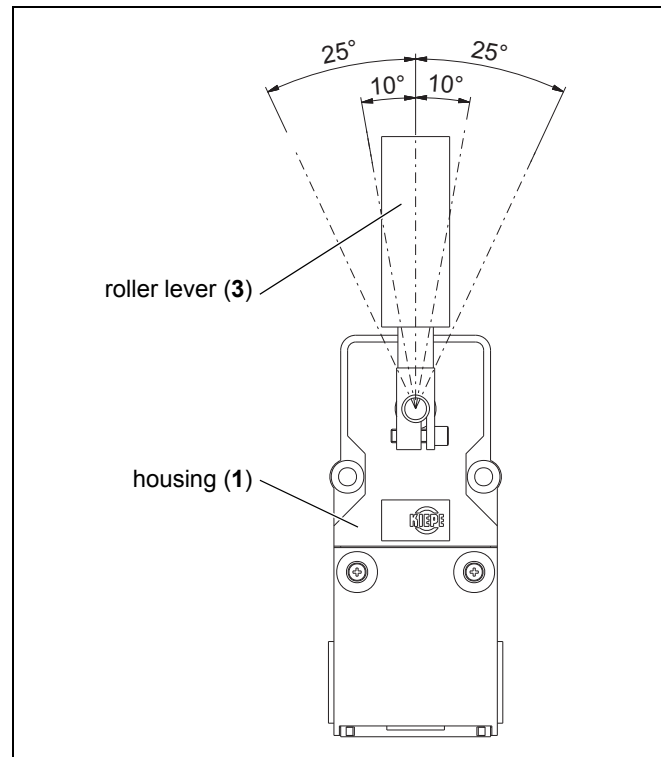

Fig. 3-1: Misalignment switch MAS 001
Misalignment switches of type MAS 001 each have two switching points in both directions in which the roller lever (3) can be deflected (see Fig. 3-1). When a roller lever (3) is deflected by 10° , an advance warning is given. If the roller lever (3) is deflected by 25° , the misalignment switch actuates the limit switch of the conveyor.